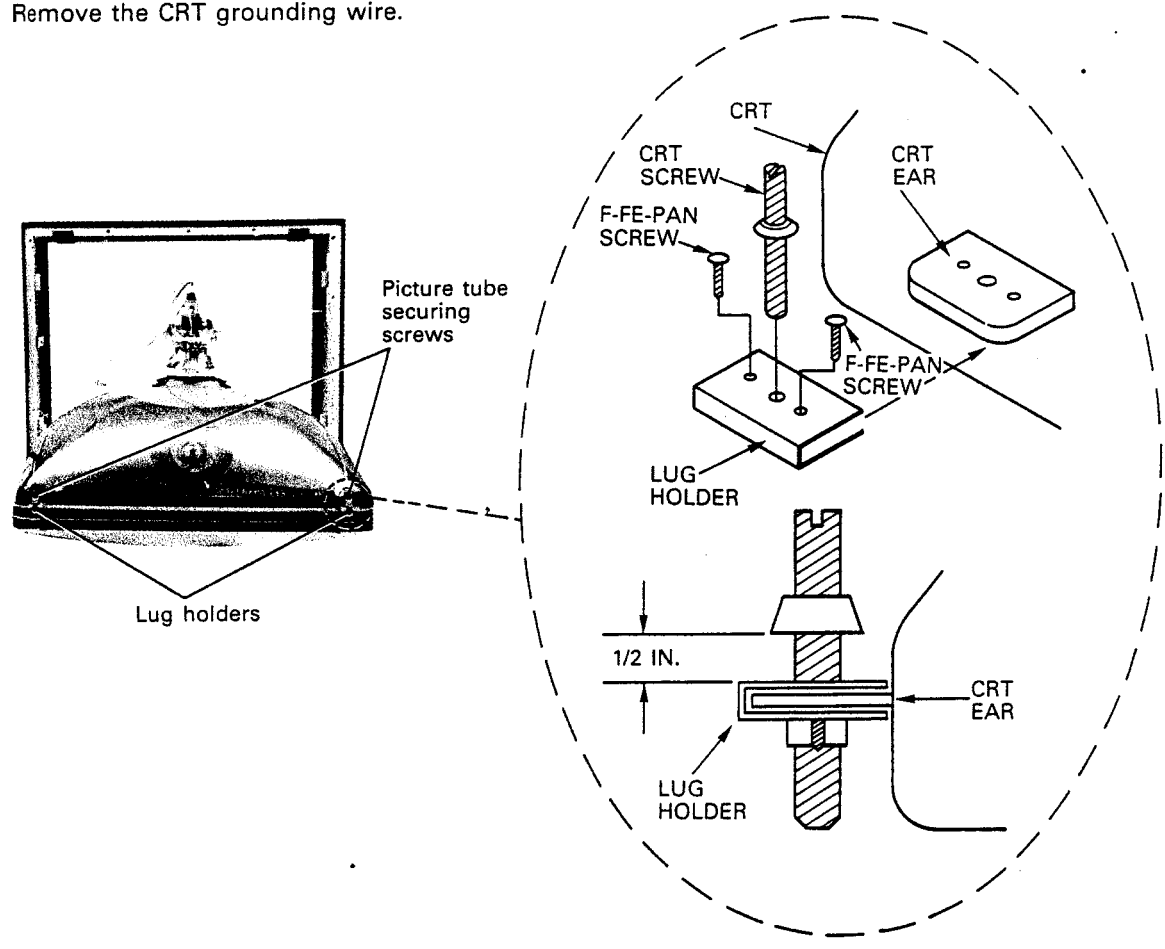

Fig. 15-6
- 12. Remove the CRT mounting screw and the two philips head screws from each LUG-HOLDER, then remove all four LUG-HOLDERS. (Fig. 15-6)